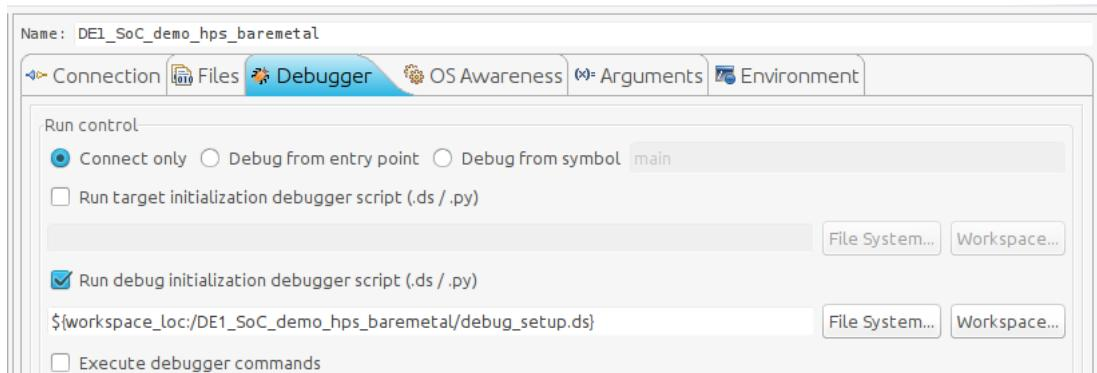

Figure 8-31. Debug Configuration “Debugger” Tab
- b. Enable the “Run **DEBUG** initialization debugger script (.ds / .py)” checkbox. Set the debug script to the one we defined for the project in 8.4.2.3.2.2. You should have something similar to Figure 8-31.